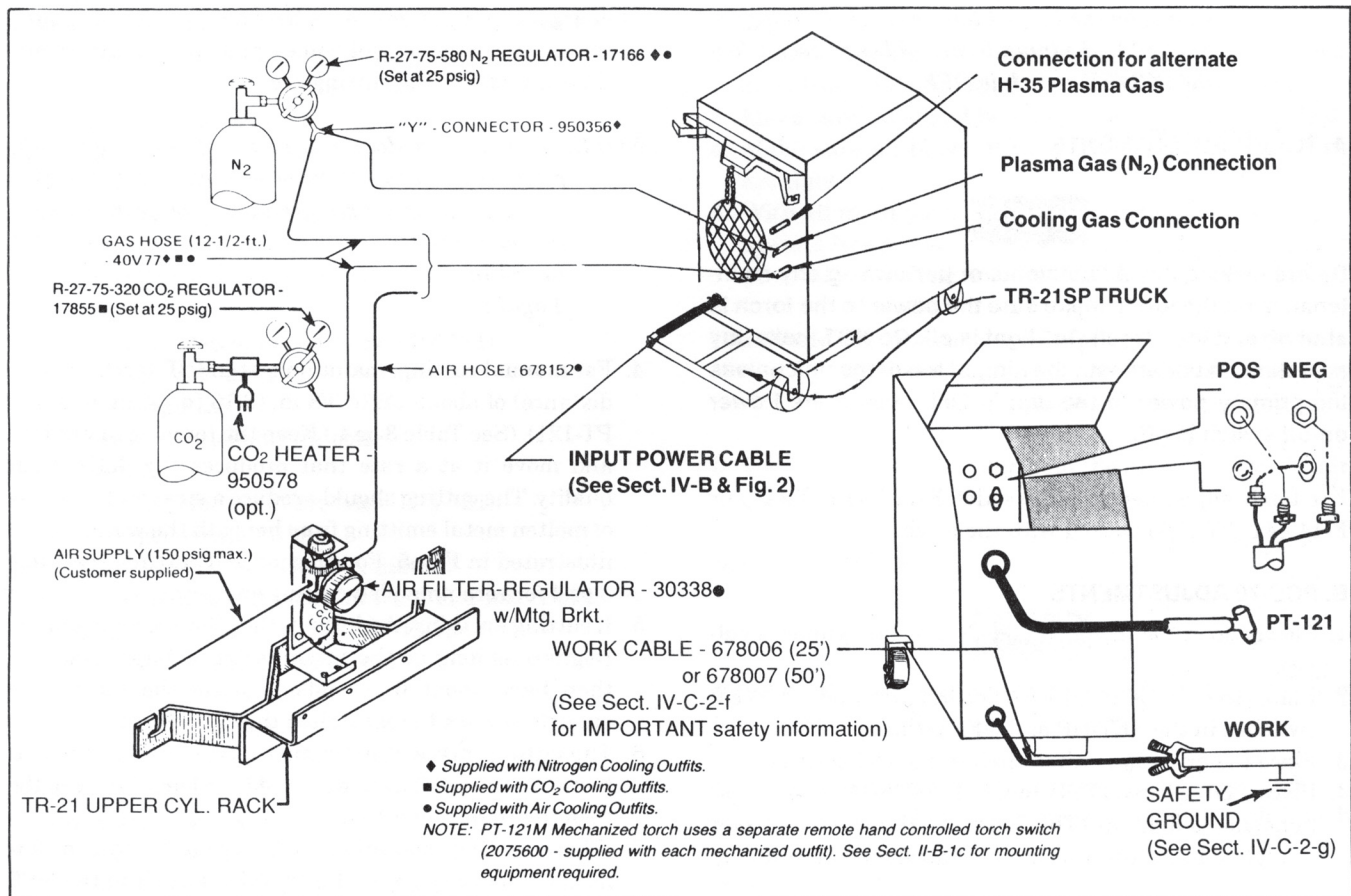

Fig. 4 - Interconnection Diagram - PCM-70/PT-121
2. Using PT-121 Torch (Refer to Fig. 4)